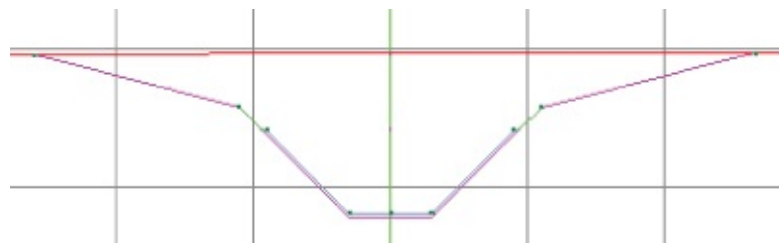

Figure 9.53 The completed Drainage Channel corridor viewed in the Section Editor
19. The cross section should look similar to Figure 9.53.